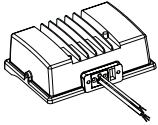

Fig. 4
- 2.) If there is an existing mounting bracket, other than the yoke mount (i.e. knuckle mount), remove it from the fixture (**Fig. 4**).